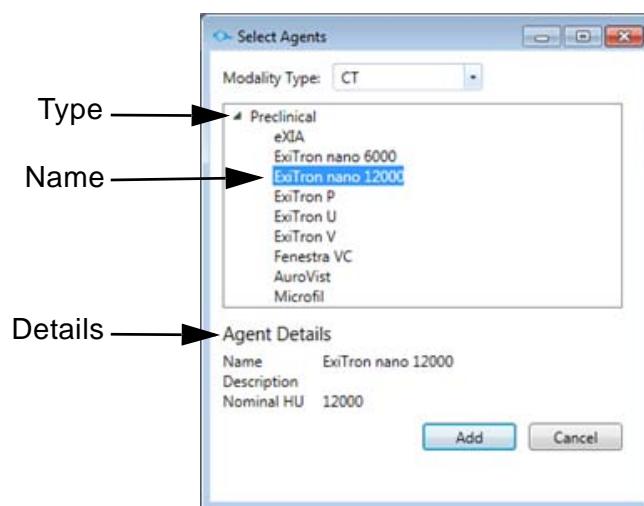

Figure 16. Select Agents
- 4 Click the name of the agent or dye to add. The details of the selected agent or dye display under the text box. See Figure 16.